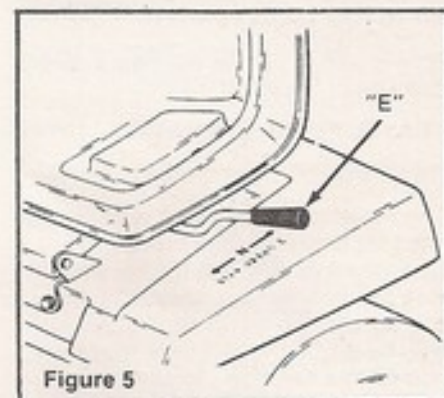

Figure 5
The two speed shift arm (E), Figure 5, MUST be operated with the tractor completely stopped.